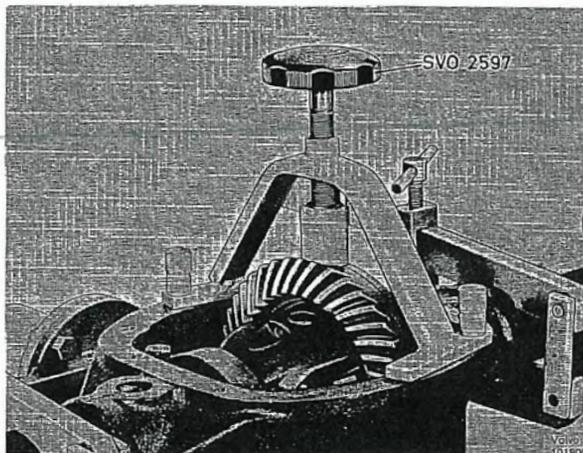

Fig. 4-157. Brake tool for differential
2. Fit on brake tool 2597 as shown in Fig. 4-157. Mark with colour several teeth at three points on the crown wheel. This can act as a check for possible crown wheel warping. Rotate the pinion 10–12 turns in both directions and check the contact marking pattern. At the correct tooth contact, the contact pattern should be horizontal